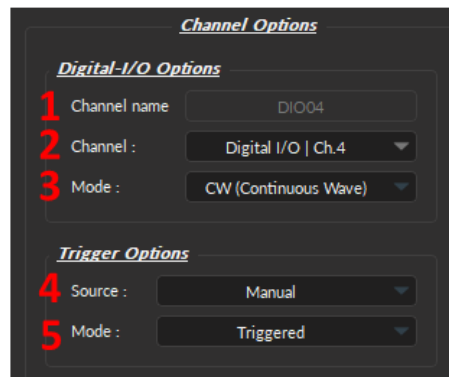

Figure 9.20: Channel(s) configuration window, Digital I/O Channel Options
1. The **Channel name** (Fig 9.20, 1) allows user to specify a label for each channel.
2. The **Channel** (Fig 9.20, 2) identifies the channels available to create a Digital I/O. The channel can be changed by selecting a new one from the drop-down list. Each numbered channel on the physical console corresponds to the same number of the digital channel within the software.
3. The **Mode** (Fig 9.20, 3) identifies the type of signal sent (for output channels) or the way the signal is measured (for input channels). Three modes are available:
1. The **Source** trigger option (Fig 9.20, 4) allows the choice of a **Manual Trigger** (activated by a user) or an **Input** trigger, coming from a **Digital I/O** channel set in input mode.
2. The **Mode** (Fig 9.20, 5) defines how the trigger activates a sequence. This includes input sequences, which can be triggered/gated by an outside source.
The parameters contained in the **Sequence Options** depend on the **Channel Mode** (selected in **Channel Options**, Fig. 9.20), as following:
- The **Square** channel mode (Fig. 9.20) allows the creation of a square TTL pulse sequence. This includes all sequence options as the **CW** mode (Fig. 9.23, 1-3), with the following additions: